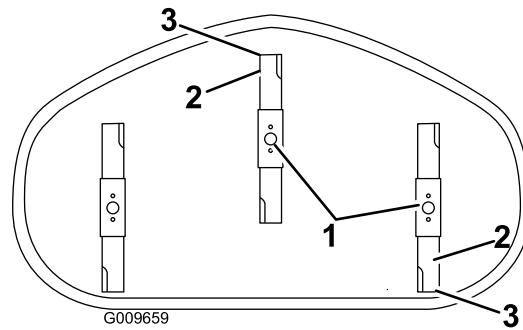

Figure 56
4. Carefully rotate the blades so that they are facing front to rear (Figure 56).
5. Measure from the tip of the front blade to the flat surface, and the tip of the rear blade to the flat surface (Figure 56).
- 7. After adjustment, check the front-to-rear slope again, continue adjusting the nut until the front blade tip is 1.6 to 7.9 mm (1/16 to 5/16 inch) lower than the rear blade tip (Figure 56).